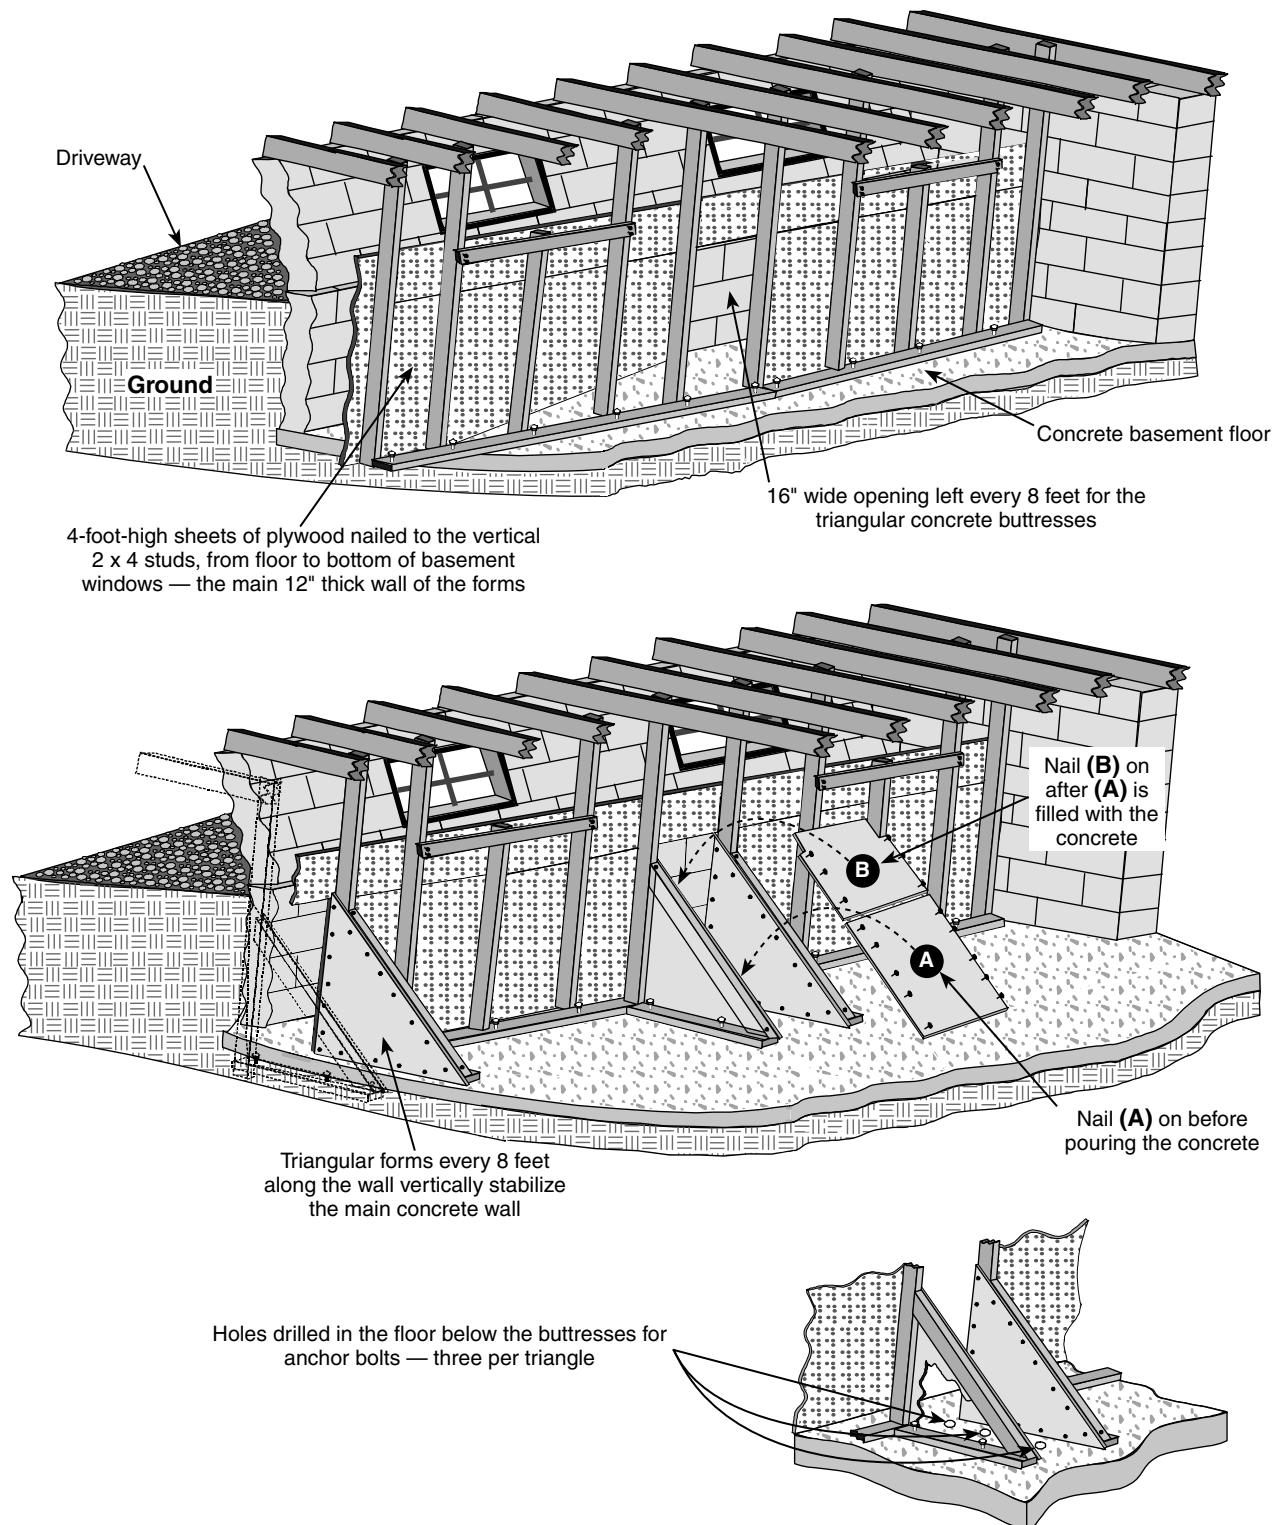

Figure 4-11
7. Because the new wall was only going up to ground level, it could still be forced inward, since that was where the driveway push was coming from. There was nothing to hold the new wall in place at the top. My reinforcement went up to the floor joists, but I couldn't leave plywood forms and 2 x 4s there forever. It would have looked horrible. But the buckling could eventually push down the basement wall on that side — along with the house. My solution was to build three forms for buttresses, each in the shape of a triangle, along the inside of the new wall (see Figure 4-11). These 90-degree triangles would extend out every 8 feet from the wall, inside the basement.
11. I had cut two pieces of plywood for the top of each triangle form. I nailed the first piece at the lower end of the triangle before pouring the concrete (see A on Figure 4-11), then I nailed on the second piece after pushing the concrete down into that lower section of the triangle form (see B on Figure 4-11). Now the concrete buttresses were anchored to the floor and would keep the new wall from bending under the push of frost.